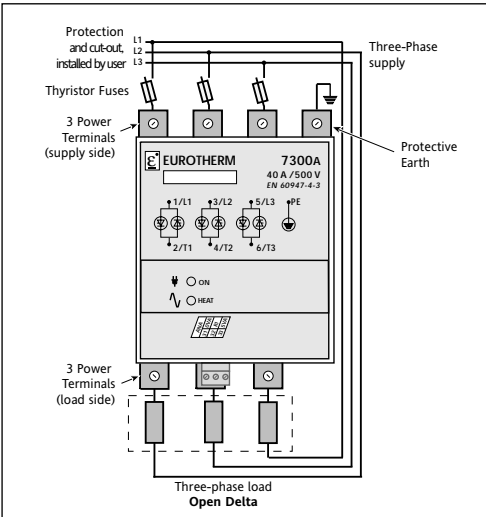

Figure 2-10 Connecting a three-phase load using open delta configuration (6D)
- open delta (6 connection wires, code 6D), figure 2-10